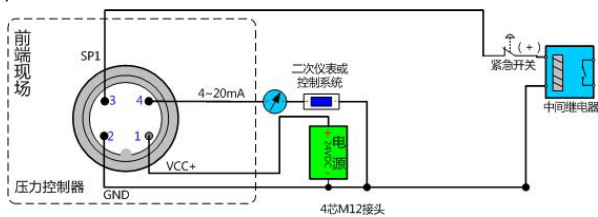

Figure 5-2 1 channel PNP+4~20mA analog signal output(4-wire system)
a) PNP output wiring diagram is shown in Figure 5-2, 5-3, 5-4